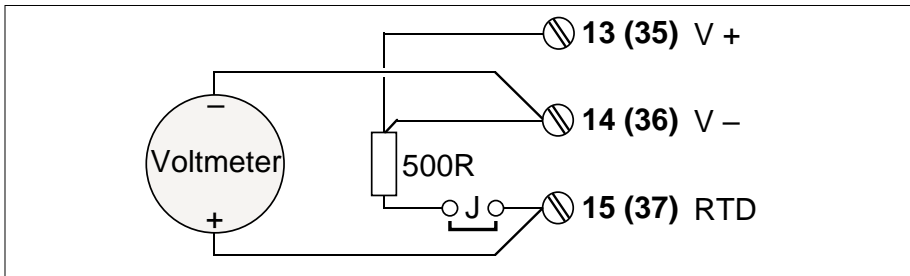

Figure 13-4 RTD calibration setup
- 11 Now connect up the instrument as shown in Figure 13-4.